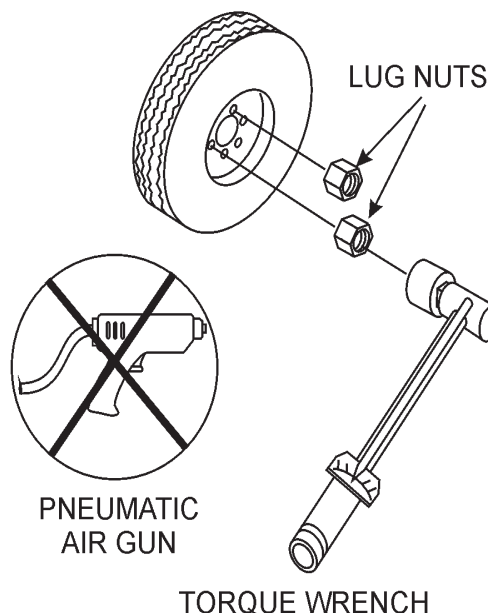

Figure 35. Wheel Lug Nuts Tightening Sequence
2. Torque all lug nuts in sequence. See Figure 35. **DO NOT** torque the wheel lug nuts all the way down. Tighten each lug nut in 3 separate passes as defined by Table 10.